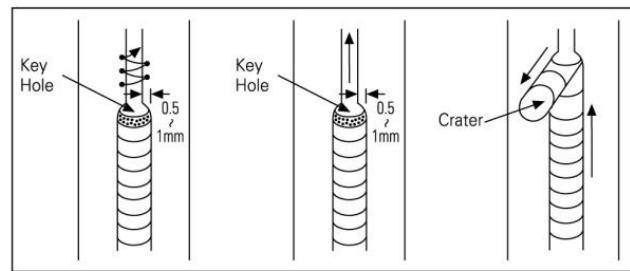

Fig. 1: Semi Weaving Fig. 2: Straight Fig. 3: Arc Stopping
- (e) Maintain key hole shape constant applying either semi weaving (Fig. 1) or straight weaving (Fig. 2) technique.